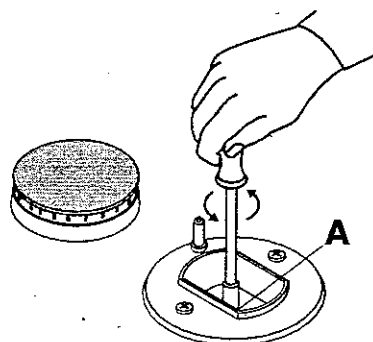

fig. 6
- Gas inlet connection ($\frac{1}{2}$ "BSP female thread for Natural Gas and $\frac{1}{2}$ "BSP male thread for Propane Gas) is situated at the rear of the appliance to the right (fig.6). Should it be necessary to turn the fitting, the gasket (supplied with the appliance) must be replaced.
- 4 Remove the Natural Gas main injector in the bottom of each mixing bowl (fig.6) and replace with the appropriate size Propane Gas main injector for each burner.
- 4 Remove the natural Gas main injector in the bottom of each mixing bowl (fig.6) and replace with the appropriate size Propane Gas main injector for each burner.